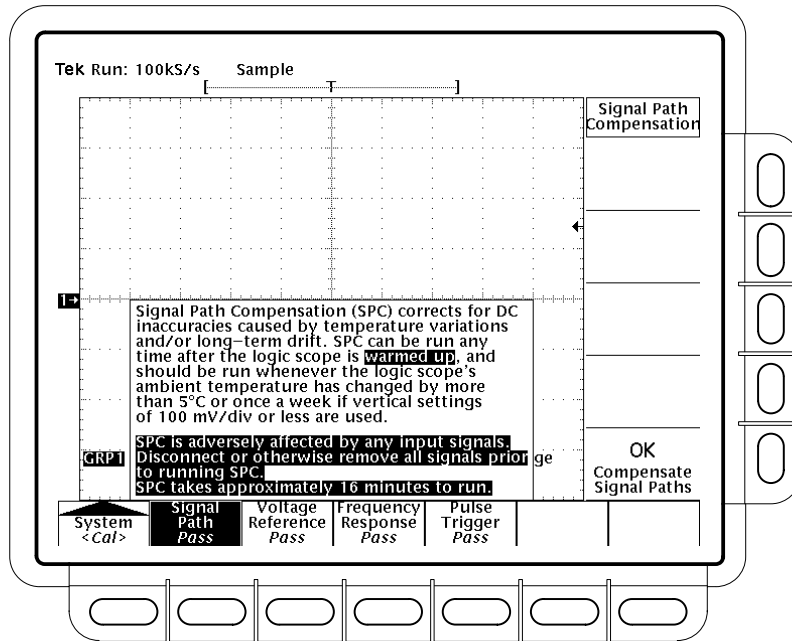

Figure 3-25: Performing a Signal Path Compensation
5. Verify the word *Pass* appears under **Signal Path** in the main menu. (See Figure 3-25.)